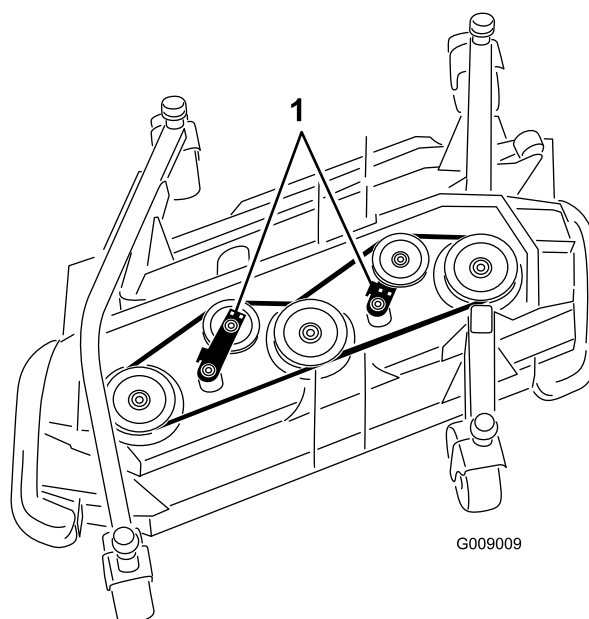

Figure 84
5. Using a ratchet wrench or similar tool, move the idler pulleys away from the drive belt to release the belt tension and allow the belt to slip off the pulleys (Figure 84).